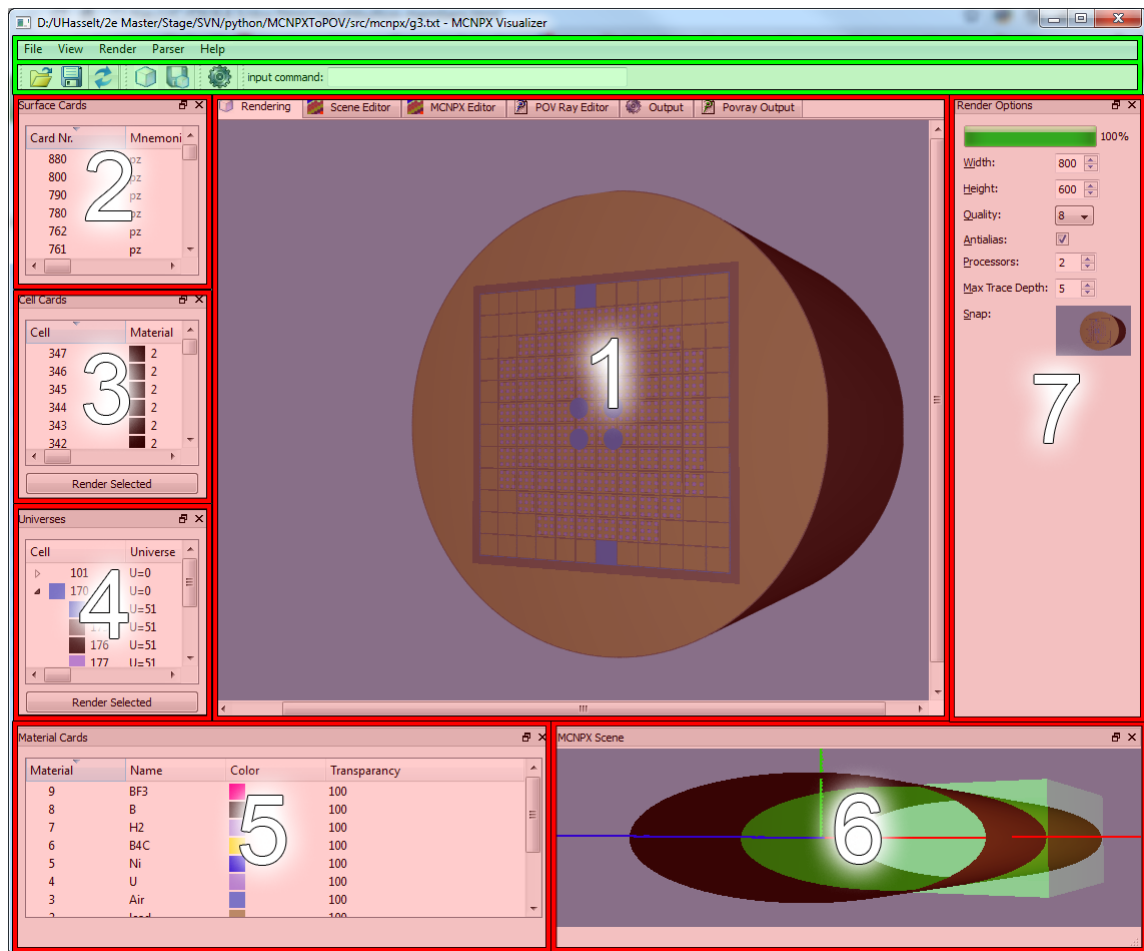

Figure 3.1: The MCNPX Visualizer consists of a set of dockwidgets. These dockwidgets can be used to set up the scene and rendering parameters.
The MCNPX Visualizer consists of a set of docked widgets. Figure 3.1 gives an overview of all the different dockwidgets. The green area describes the main menu and toolbar of the software. The main central widget (1) contains multiple tabs. **Rendering** is the main tab. It is the most important widget because all the results are rendered to this tab. The other tabs are **Scene Editor**, **MCNPX Editor**, **POV-Ray Editor**, **Output** and **POV-Ray Output**.